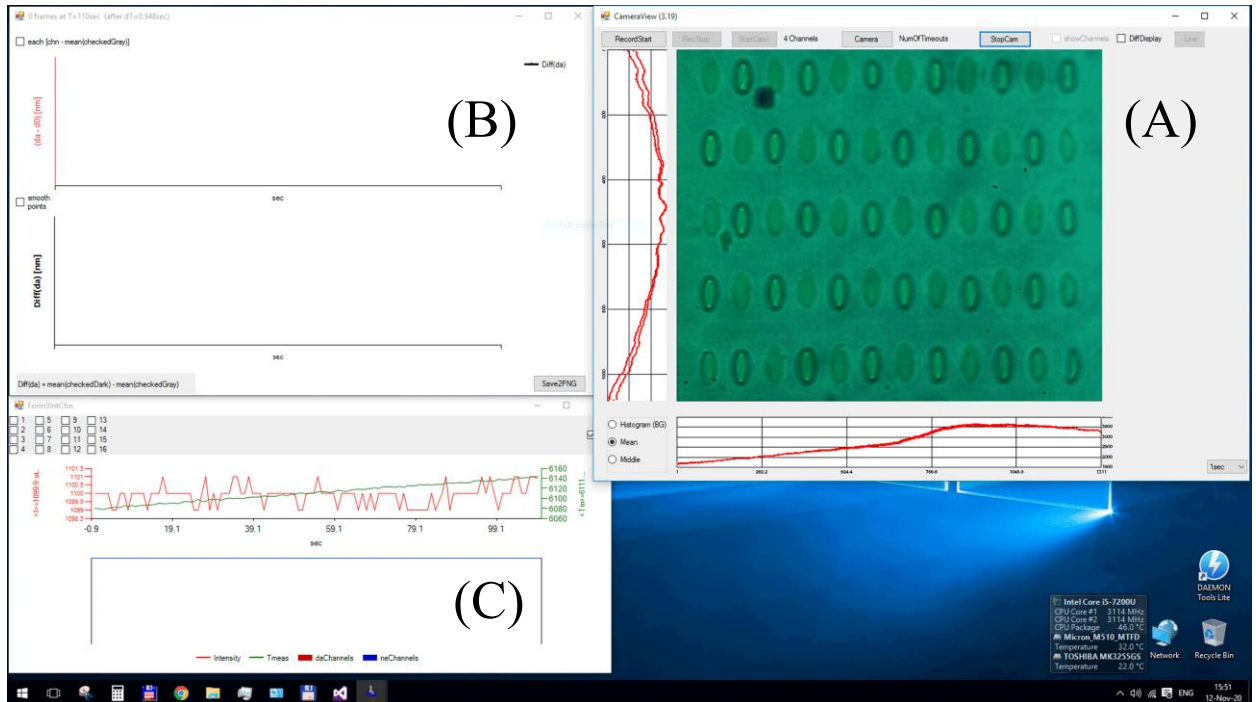
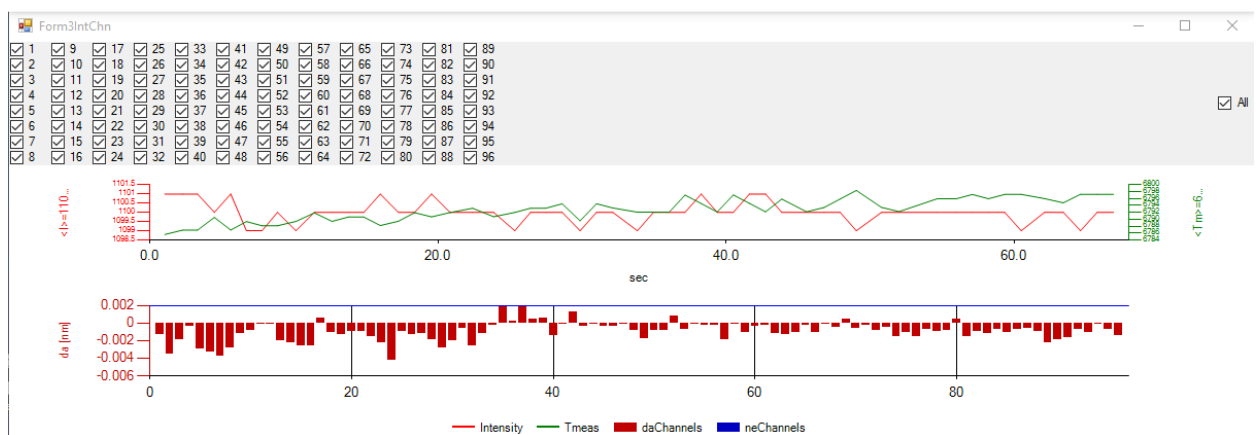

Figure 7. Three windows will appear on the screen after the *PCbiosensors3* program launch.
Figure 12. Form3IntChn auxiliary window.
After turning on the LED and the camera of the EVA 3.0 device (by two corresponding tumblers), you can launch the *PCbiosensors3.exe* program. Three windows (A, B, C), as displayed in Figure 7, will appear.
Images from the camera in **Figure 7 (A)** are shown in their natural color. The biosensor detects a slight color change at each point of the camera using normalized difference (1) and recalculates it as a $\Delta\lambda$ shift. Thus, the device determines λ for each camera pixel to obtain the spatial distribution $\lambda(x,y)$ across the camera that reflects the spatial distribution of the waveguide resonance shifts across the sample.
When the positioning of the registration spots is complete, you can start recording by pressing the ‘Start New Record’ button. After pressing the ‘Start New Record’ button, a new measurement begins, and its results are displayed in the data window (see **Figure 7**, item B).
(if the box ‘self-reference in each channel’ was checked in ‘RecordStart’ subwindow). By default, all channels marked as ‘Plus channels’ and, therefore, an initial black graph display a mean value of all da[nm]. Checked or unchecked channels for visualization is possible in window ‘Form3IntChn’ (see **Figure 7**, item C or **Figure 12**).
The graphs in Form3IntChn window (see **Figure 12**) are auxiliary graphs, and it is rarely used in routing measurements. An upper graph displays mean intensity on the CMOS camera and a measurement time, which is required to retain this mean intensity. The mean intensity value (in this case $\langle I \rangle = 1100$) is assigned at the beginning of the program with the first number following the name of the exe file (for example, *PCbiosensors3.exe 1100 32 0.5* – where the second number is a number of integration in one second, and the third number is a scale factor of the matrix in CameraWindow).